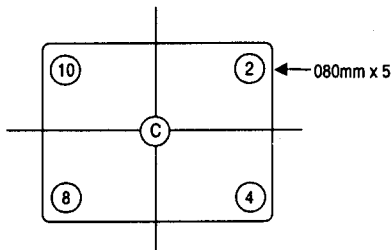

Fig. 7-1-2-5
- (12) Turn over the direction of CPT axis direction magnetic field of the Earth's magnetic field and check it by the same way as item (11). The positions of mislanding criteria with microscope should be 2, 4, 8 and 10. (Fig. 7-1-2-5)